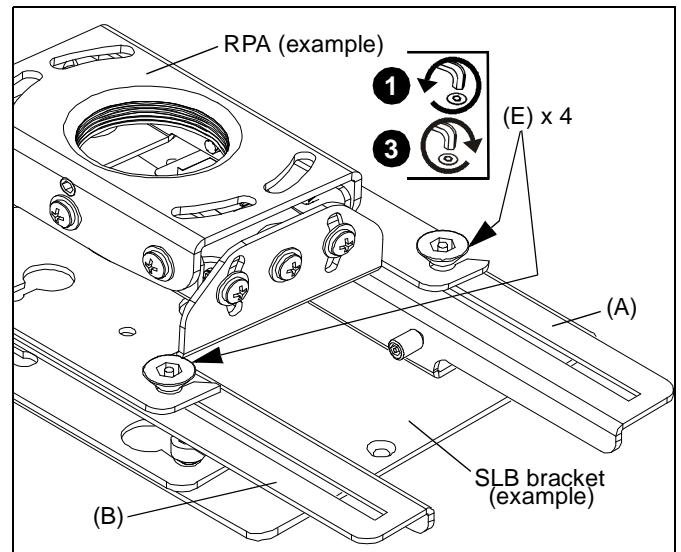

Figure 7
1. Loosen two 10-24 x 3/8" flathead security screws (E) on each LSB100 bracket (A) and (B). (See Figure 7)
3. Tighten all four 10-24 x 3/8" flathead security screws (E). (See Figure 7)